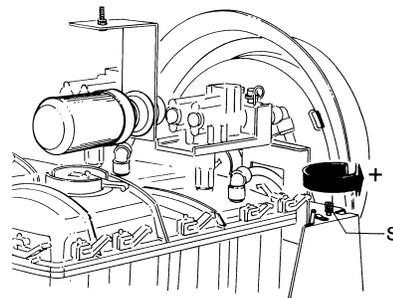

FIGURE 12
To vary the viscosity of the product, turn the knob (S) as shown in FIGURE 12.